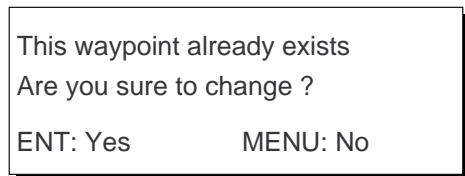

Figure 4-16
- 6) Press the [NU/CU ENT] key. The message shown in Figure 4-16 appears.